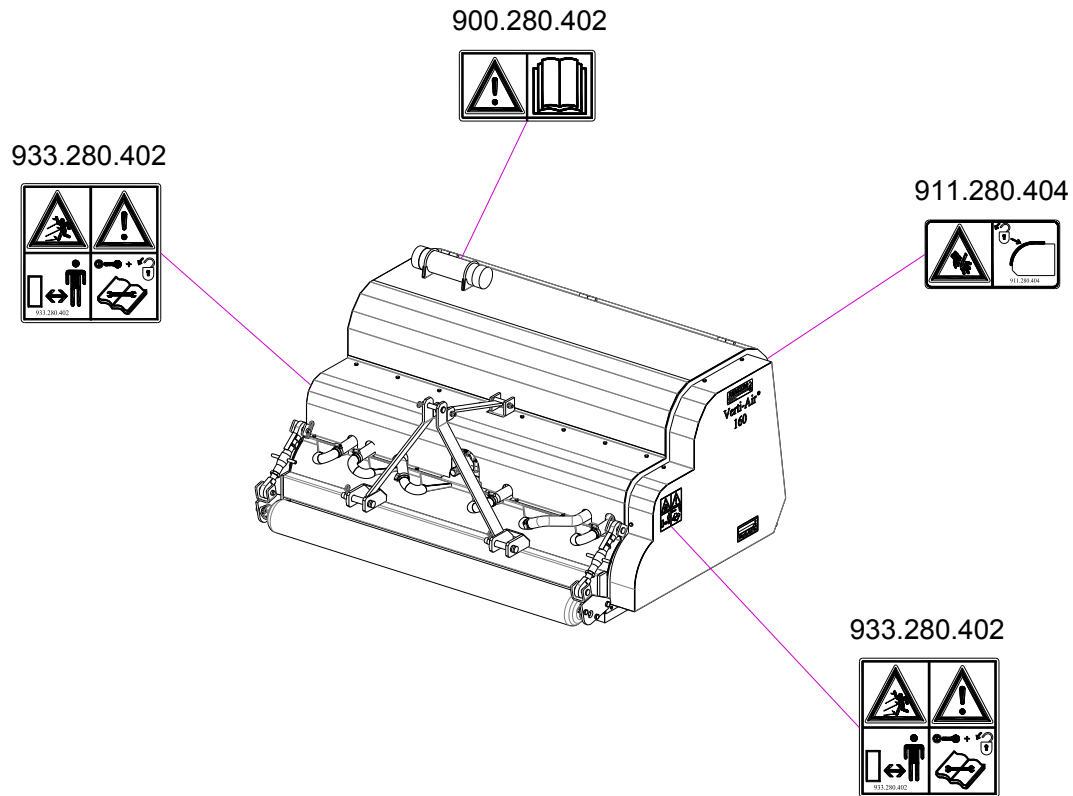

Fig. 7
There are safety stickers (Fig. 4, 5, 6) on both sides of the Verti-Air, one on the side panel and one on the rear guard (Fig. 7) with an identical meaning. These safety stickers must be clearly visible and legible at all times and replaced when damaged.
(7) Locations of safety stickers. (Fig. 7)